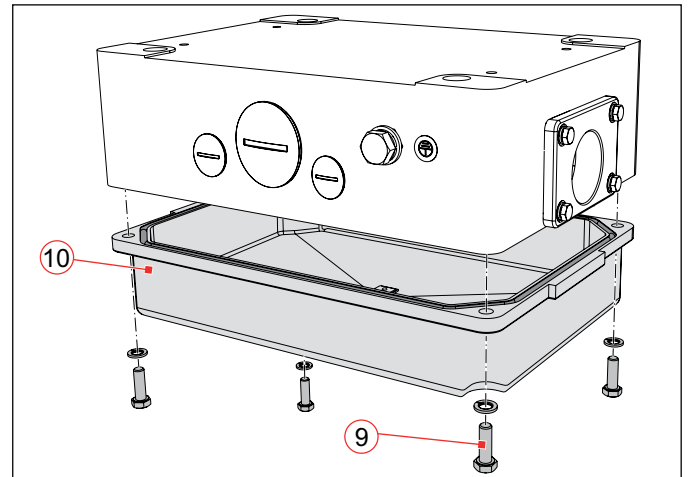

Fig. 31: For preparing the installation, remove the shell cover (10) on the bottom side of the junction box
- ▶ For preparing the installation, release the 4 hexagon screws M8 (9) of the shell cover (10) on the bottom side of the junction box (Fig. 31).
- ▶ Remove the shell cover (10) together with the glued in seal.
The shell cover of the junction box must be removed (see Fig. 31).
After having checked all cable connections for correct laying and secure attachment, mount the shell cover again on the bottom side of the junction box, see Fig. 31.